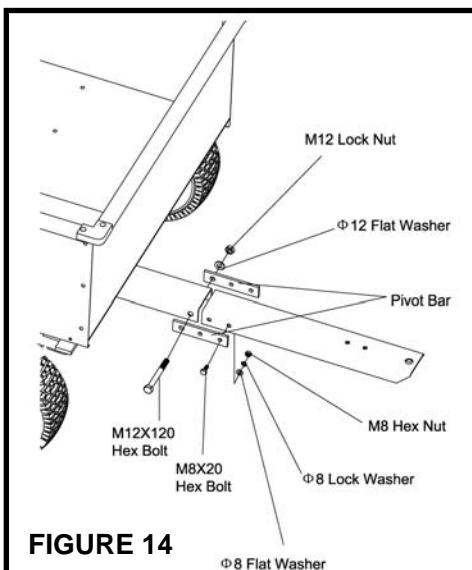

FIGURE 14
31. Assemble the two pivot bars to the front tongue section using four M8X20 hex bolts, Ø8 lock washer, Ø8 Flat Washer and M8 hex nuts. Don't tighten yet. See **Figure 14**.
32. Assemble the pivot bars to the rear tongue section using a M12X120 hex bolt and Ø12 Flat Washer and M12 hex lock nut. Tighten the lock nut, leaving it just loose enough to allow the front tongue to pivot. Now tighten the four hex bolts, lock washers and hex nuts assembled to the front tongue in Step 31. See **Figure 14**.